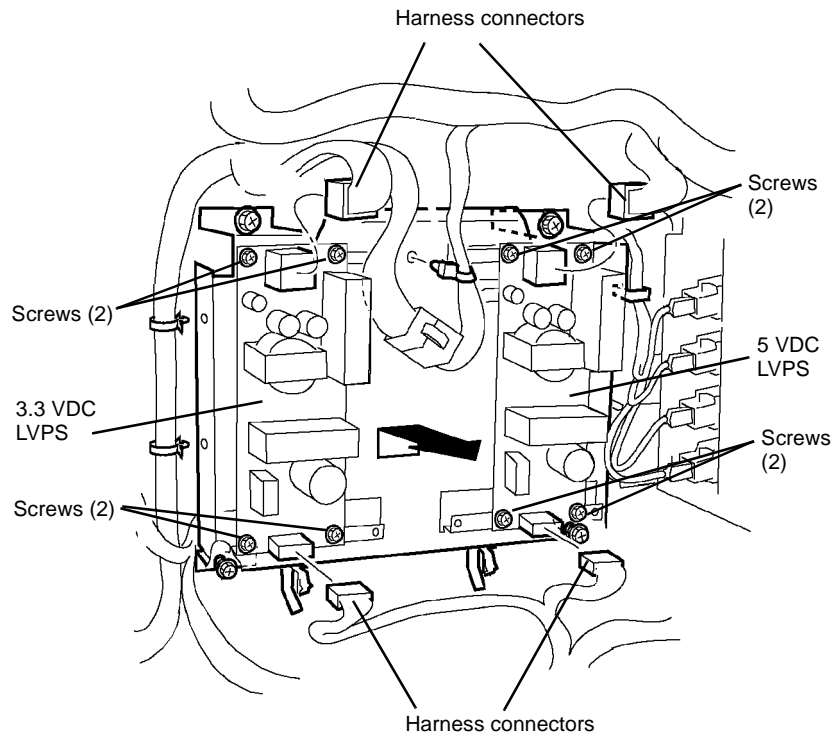

Figure 1 Removing LVPS
3. Remove the appropriate LVPS (Figure 1).
- a. Disconnect appropriate harness connectors (2).
- b. Remove the appropriate screws (4) and remove LVPS.